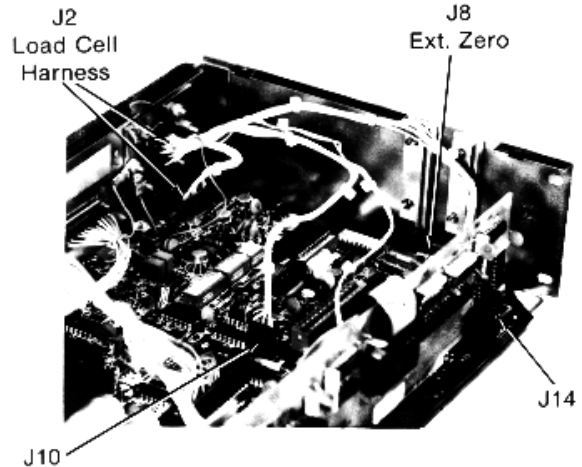

FIGURE 1
STEP 4 - Install the new analog connector onto the chassis in place of the load cell connector and connect harness as shown in Figure 1.